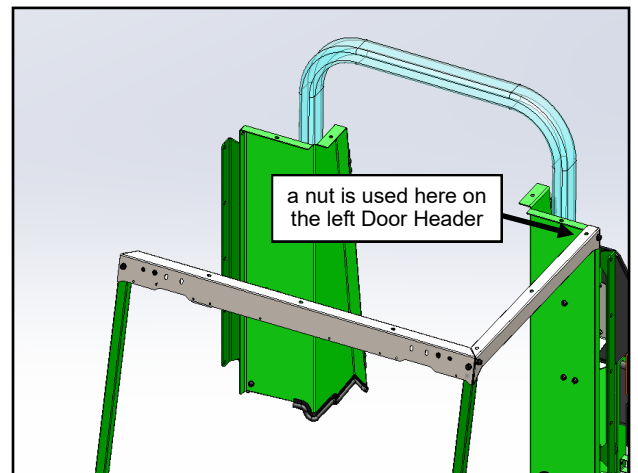

Fig. 8.1 (Install left Door Header)
8.1 Per fig. 8.1, install the left Door Header, oriented with the square cut end towards the rear of the vehicle. Leave both bolts loose.